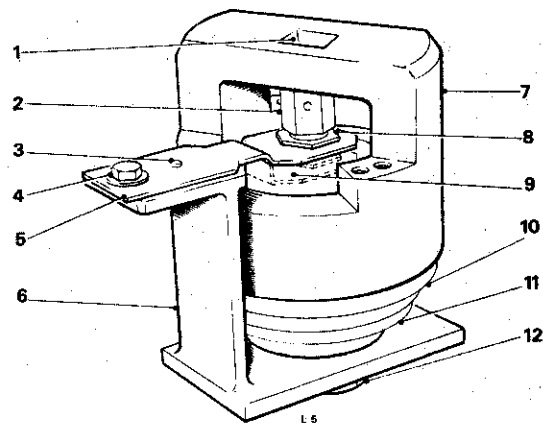

FIG.1 Accumulator sphere secured in the holding tool
- h) Fit tool number RH 8235 to the charging valve adaptor (see Fig. 1) and completely discharge the sphere.
- i) Fit the sphere into tool number RH 8145 as shown in Figure 1, and using a torque spanner in conjunction with tool number RH 8144 remove the locking ring.